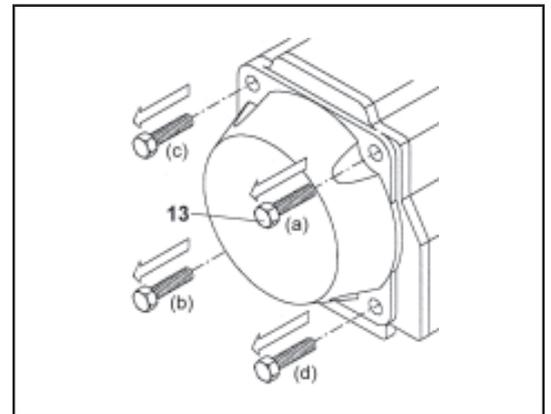

Fig. 17
(Figure 17)
- Remove cap screw (13) in the sequence shown in the figure 17.